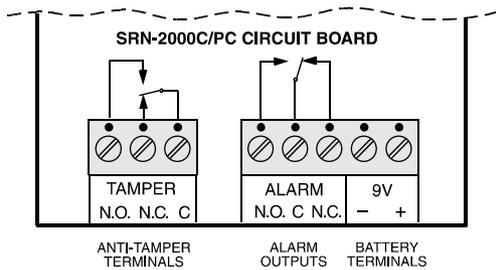

Figure 6. SRN-2000C/PC Wiring
- A. **Model SRN-2000C/PC** (see Figure 6)